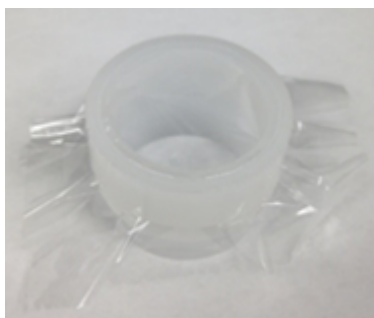

Figure 15. Ultralene® covering of one side of cup
1. A XRF Sample cup has three components: cup, ring, and cap. Take a piece of Ultralene® film and stretch it over one end of the cup. Place the open ring over the film and cup and snap it firmly onto the cup. This will create a tight window on one end of the sample cup (*Figure 15*). Ultralene® is very thin and prone to ripping. Check for rips before and after sample powder is added.